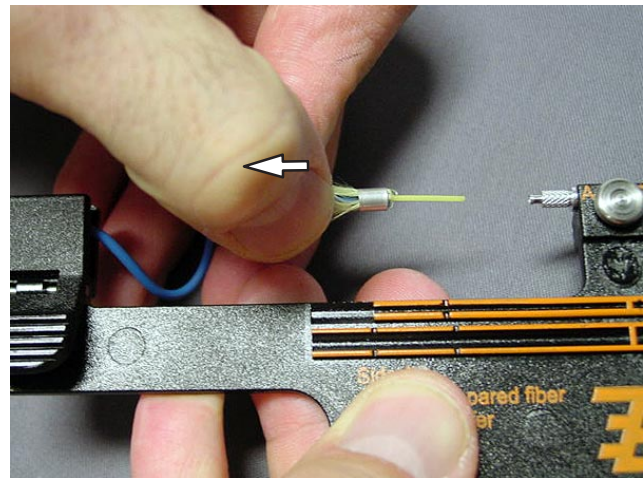

Figure 73
2. Holding on the jacket, align the fiber with the splice and carefully insert the fiber into the splice until it stops. See Figures 73 and 74.